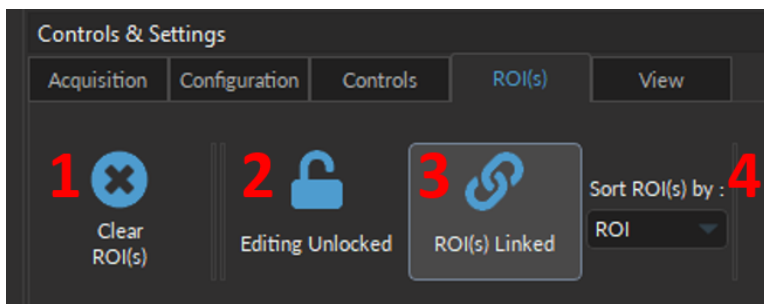

Figure 10.13: ROI(s) Tab
The **ROI(s) Tab** (Fig. 10.13) contains parameters to save, load, clear, or edit bundle fiber photometry ROI(s).
1. The **Clear ROI(s)** button (Fig. 10.13, 1) deletes all drawn regions of interest (ROI) within the **BFPD View**. Note that unless the ROI(s) were previously saved, these ROI(s) cannot be recuperated.
2. The **Editing Unlocked** button (Fig. 10.13, 2), when enabled, prevents new ROI(s) from being drawn, but does not prevent moving or reshaping a selected ROI (see section 10.5.1).
3. The **ROI(s) Linked** button (Fig. 10.13, 3) automatically redraws identical ROI(s) in the other CAM# excitation tabs (Fig. 10.44, 1) within the **BFPD View**. **Unlinking** previously linked ROI(s) deletes the ROI(s) from the **BFPD View**. Note that it is preferred to uncheck **ROI(s) Linked** between cameras in order to move and resize ROI on each camera window independently to properly select the optical fibers.